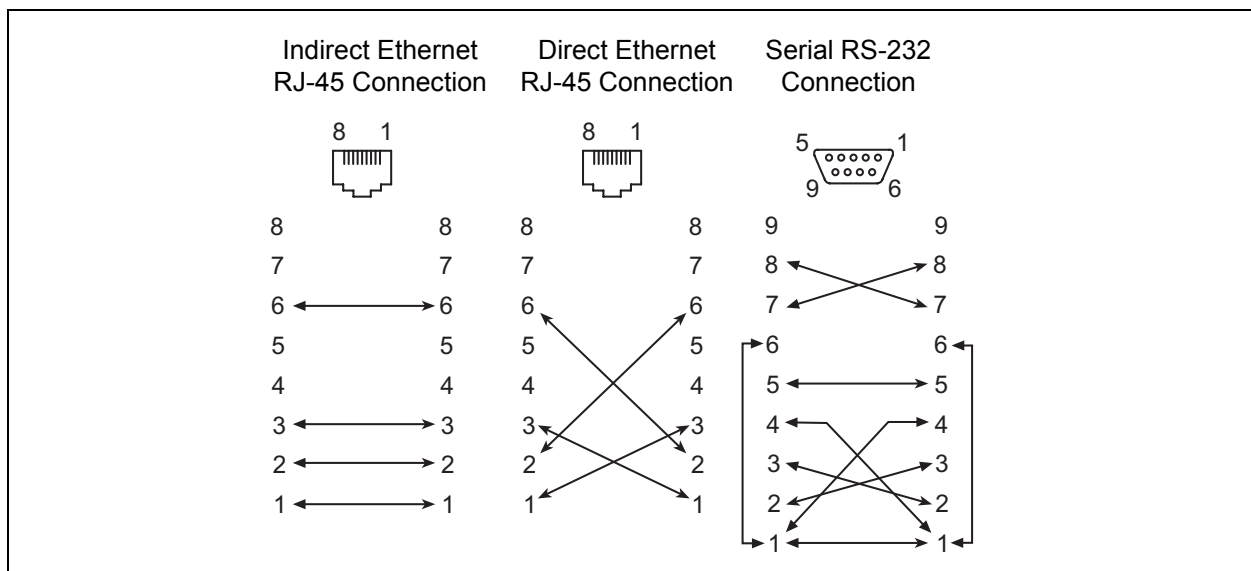

Figure 4-3. Ethernet and Serial Cable Connections
- Indirect Ethernet connection from the management workstation to the switch RJ-45 Ethernet connector through an Ethernet switch or a hub. This requires a 10/100 Base-T straight cable as shown in Figure 4-3. With this method, you can manage the switch with the SANbox Manager application or Command Line Interface.
- Direct Ethernet connection from the management workstation to the switch RJ-45 Ethernet connector. This requires a 10/100 Base-T cross-over cable as shown in Figure 4-3. With this method, you can manage the switch with the SANbox Manager application or Command Line Interface.
- Serial port connection from the management workstation to the switch RS-232 serial port connector. This requires a null modem F/F DB9 cable as shown in Figure 4-3. With this method, you can manage the switch with Command Line Interface.